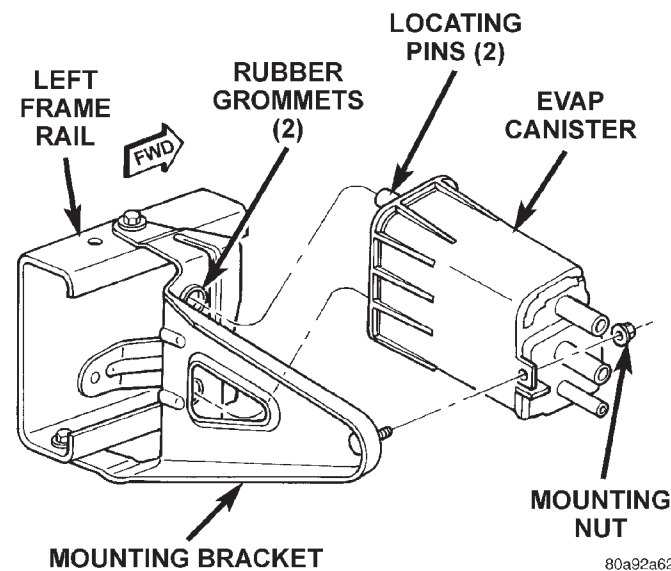

Fig. 14 EVAP Canister Location
The EVAP canister is located below the vehicle, inside the left frame rail, in front of the fuel tank (Fig. 14).
- (1) Position canister locating pins into mounting bracket grommets (Fig. 14) and install mounting nut.
- (2) Tighten mounting nut to 17–24 N·m (150–210 in. lbs.) torque.
- (3) Connect vacuum lines at canister.
- (4) Lower vehicle.